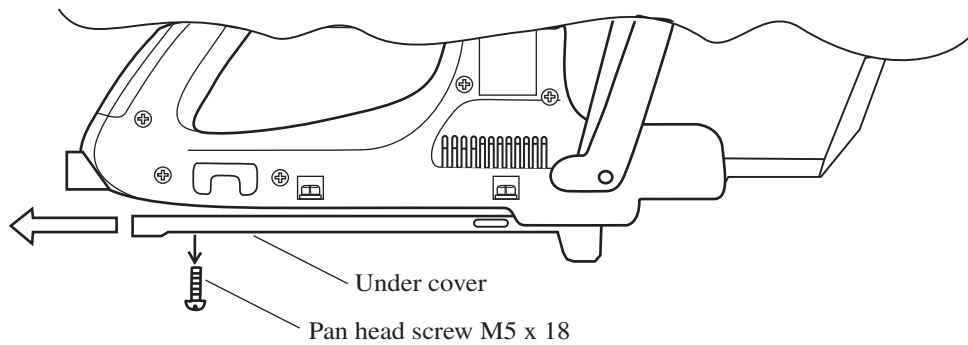

Fig. 2
1. Unscrew pan head screw M5 x 18, and disassemble under cover by sliding it in the direction of arrow as illustrated in Fig. 2.